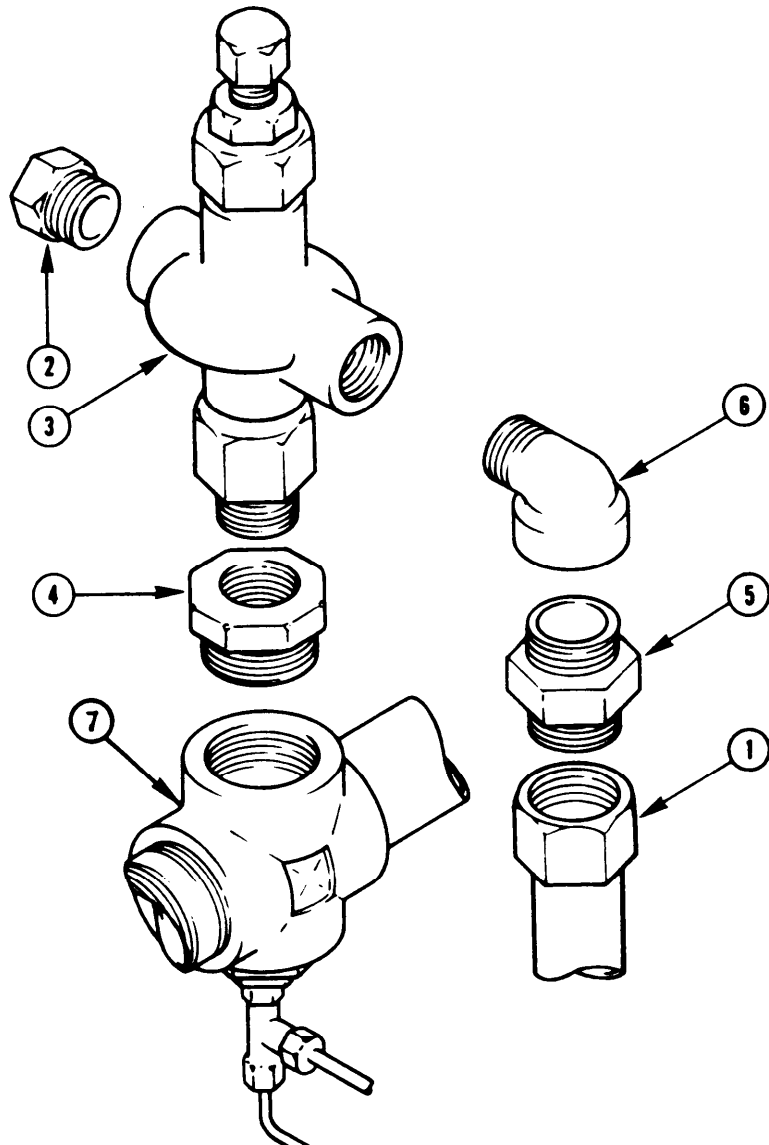

Figure 2-93. Automatic Pressure Relief Valve
b. Removal. (Figure 2-93)
- (1) Replace damaged or unserviceable discharge tube, plug, reducing adapter, and pipe fittings.
- (2) Replace damaged or unserviceable automatic pressure relief valve assembly.
- f. Installation. (Figure 2-93)